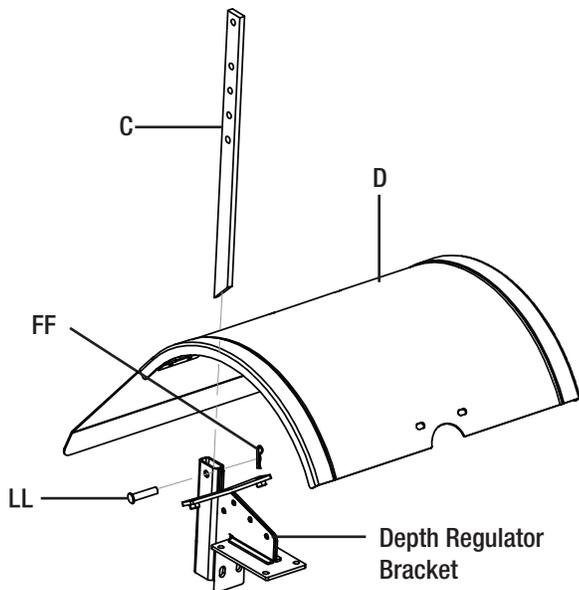

Figure 1-1
- Insert the depth regulator (C) through the protective shields (D) opening into the top of the depth regulator bracket with handle facing to the rear.
- Insert depth regulator clevis pin (LL) through the depth regulator bracket. Then insert the cotter pin (FF) to secure. The top hole of the depth regulator tines should clear the ground. See Figure 1-1.